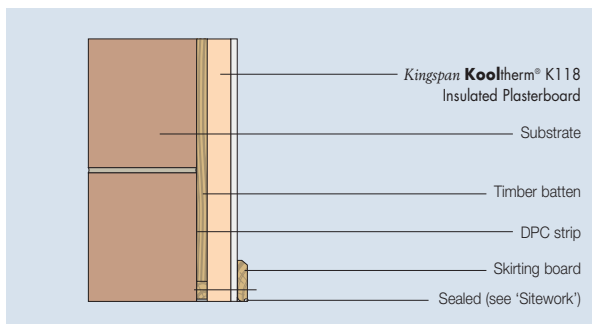

Figure 11 – Packer and Skirting Detail
- The packer should be replaced with a flexible / sealant or equivalent (for 5 mm gaps), or with a combination of flexible polyurethane foam and flexible sealant or equivalent (for 15 mm gaps) (see Figure 11).